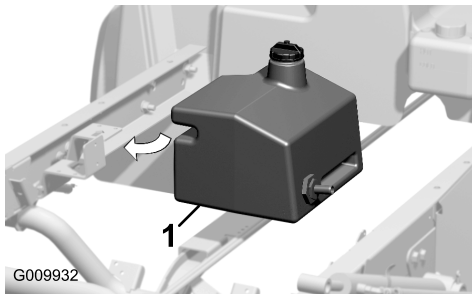

Figure 8
1. Position the hydraulic tank so that one side fits over the lower, left frame channel, and the slot on the other side of the tank aligns with the holes in the frame brace (Figure 8).